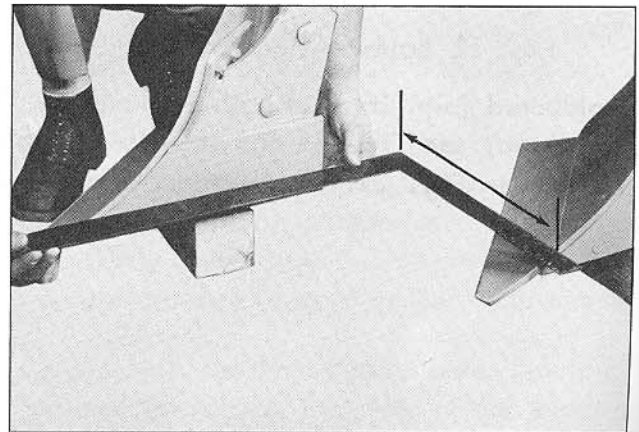

Fig. 20 Measuring Width of Cut
5. Measure the width of cut by placing a carpenter's square as shown in Fig. 20. The reading should be the width of cut plus or minus 1/4 in. i.e. 13-3/4 in. to 14-1/4 in. for 14 in. bottoms.